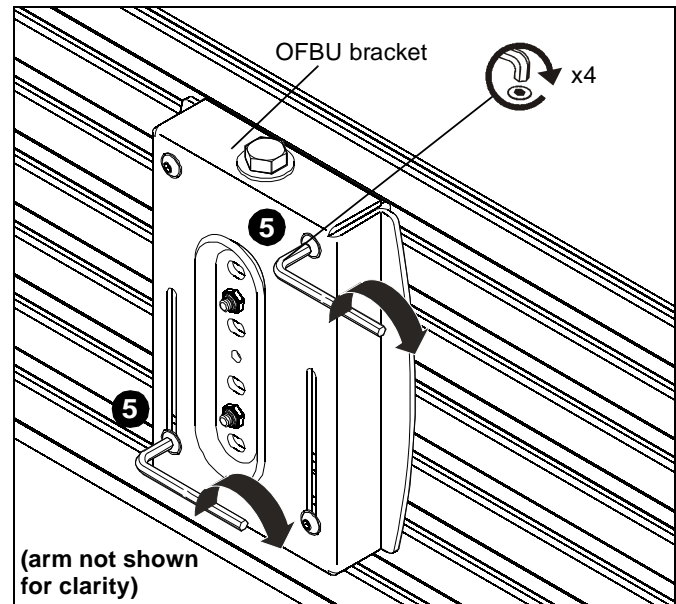

Figure 6
5. Tighten two upper and lower button head cap screws to secure OFBU bracket to wall. (See Figure 6)